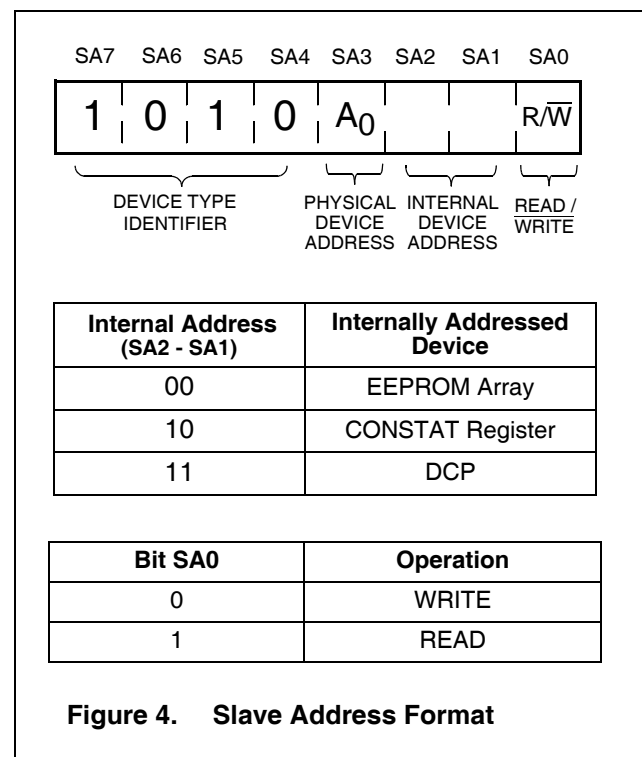

Figure 4. Slave Address Format
Following a START condition, the master must output a Slave Address Byte (Refer to Figure 4.). This byte consists of four parts:
- The Least Significant Bit of the Slave Address (SA0) Byte is the R/W bit. This bit defines the operation to be performed on the device being addressed (as defined in the bits SA2 - SA1). When the R/W bit is “1”, then a READ operation is selected. A “0” selects a WRITE operation (Refer to Figure 4.)